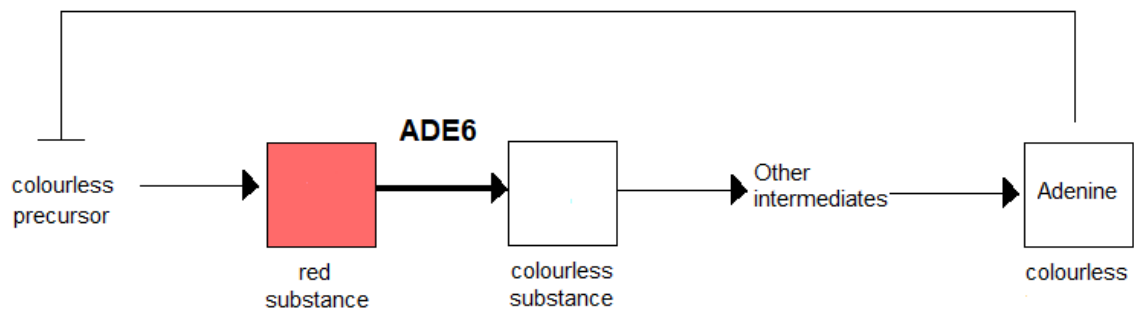

Figure 2. Pathway for adenine production in *S. pombe*
There will be a short presentation delivered by the floor leader. Listen to it carefully and take some notes on the two organisms we will be using in the practical and on the *ADE6* reporter system in *S. pombe* (Figure 2). You will need this information for the next activity.
- Imagine we have introduced the reporter into this latter strain. On what media should we plate the yeast strain? One with no, low or high adenine? Motivate your choice. Consider Figure 2 and the biological function of adenine.